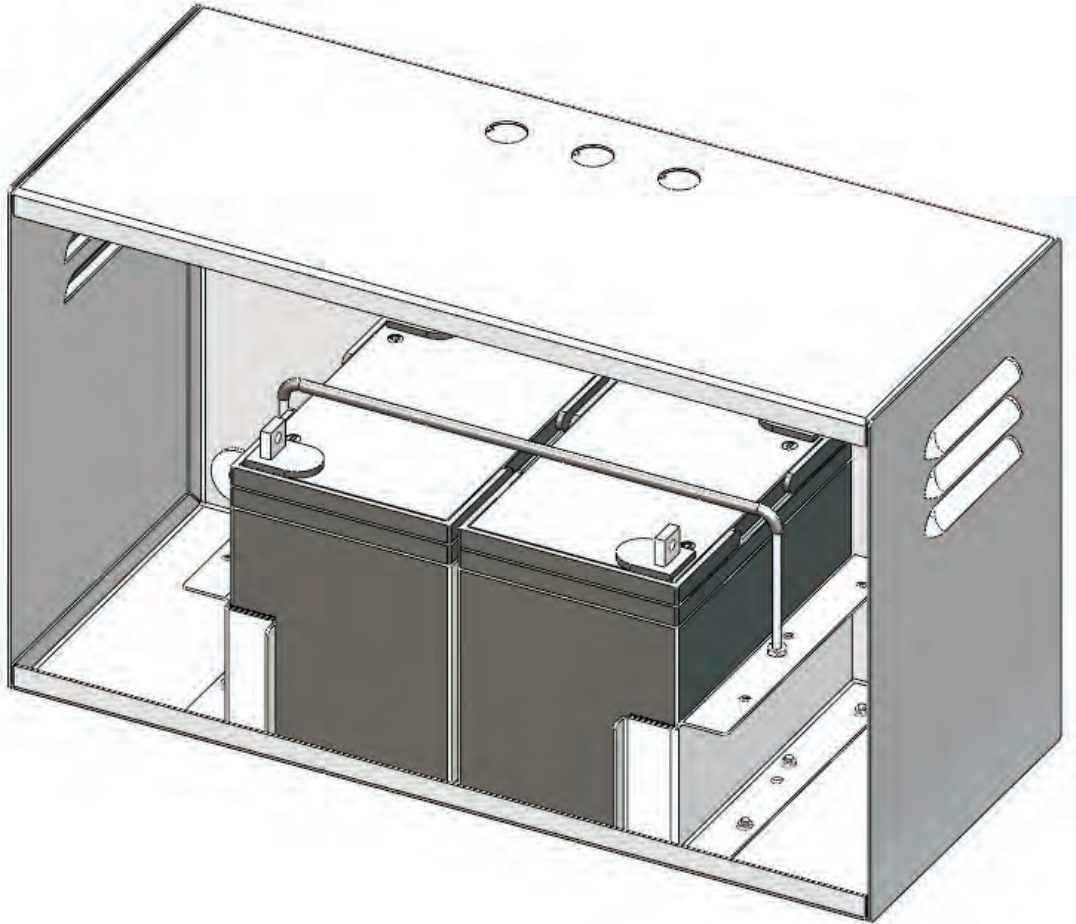

Figure J-9. Batteries inside Large Capacity Battery Cabinet with Seismic Hardware Installed
7. Place both batteries side-by-side in the cabinet in the same orientation as shown in Figure J-9.